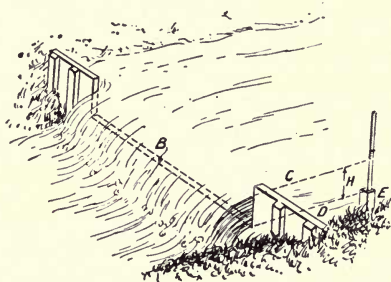

FIG. 49.—Measuring Water with a Weir.
**77. Measurement of Flowing Water.**—Oftentimes, as when water is sold to a corporation or city, it is necessary to know the quantity of water coming down a stream. To measure this a device called a weir (Fig. 49) is constructed at the sides of the stream so as to form either a rectangular or angular opening through which the water flows. Where a large quantity of water is measured the opening is usually shaped in this way ; where the quantity is small the opening is V-shaped, as the flow of water may then be measured with greater accuracy.
The volume of the flow is measured by ascertaining the height of the water above the bottom of the notch. To do this a peg is driven into the bed of the stream as at *E* in Fig. 49. The top of this peg is exactly the same height as the bottom of the notch. A measuring scale inserted in the water as shown in the illustration then enables the exact height of the flow over the weir to be measured. The formula for determining the volume of flow is: